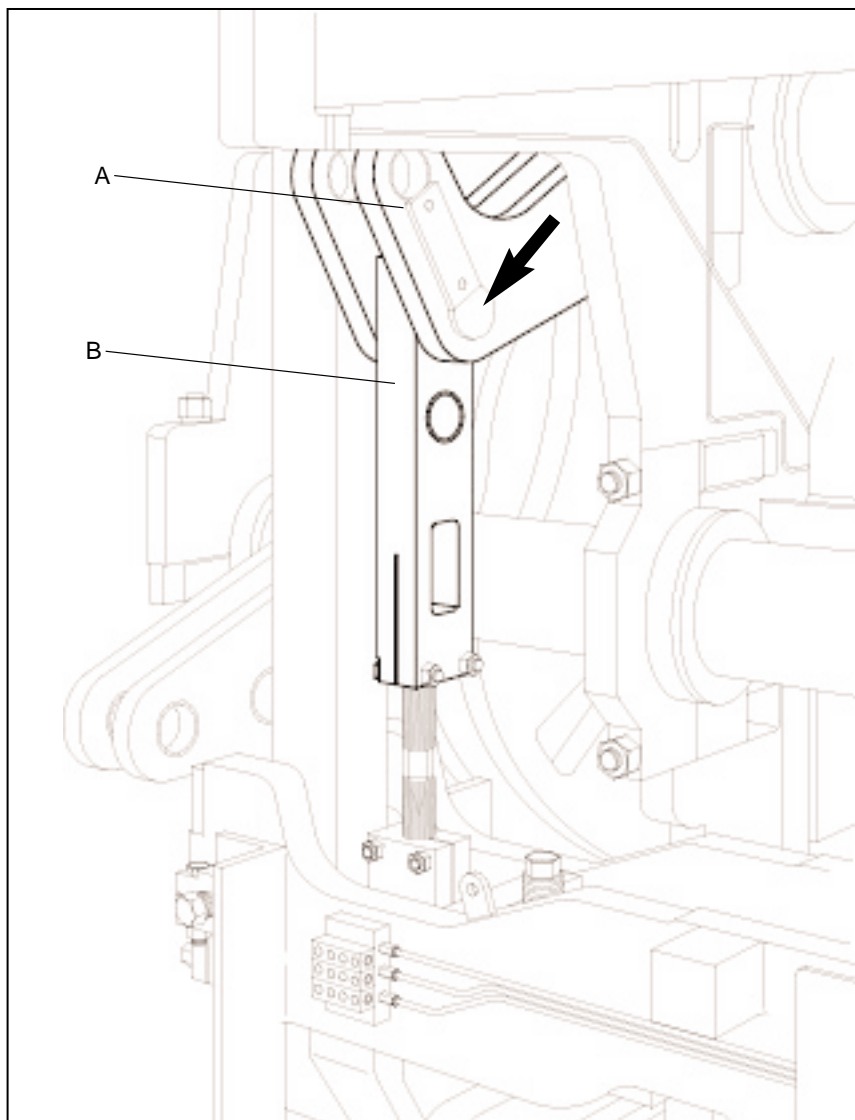

Figure 18.38 STRIPPER HEAD SHAFT AND LINKS.
b. Stripper head shaft (A) - position pins in inside holes (short stroke) (see figure 18.38).
c. Stripper head links (B) - position pins in top holes (see figure 18.38). Adjust links to obtain approximately **95mm [3.74"]** between link ends.